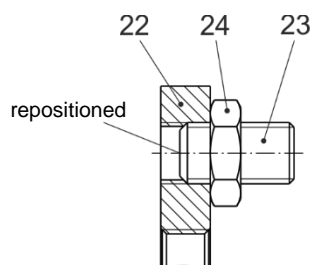

Fig. 14
1. Loosen the counter nut (24).
2. Reposition the set screws (23), Fig. 14.